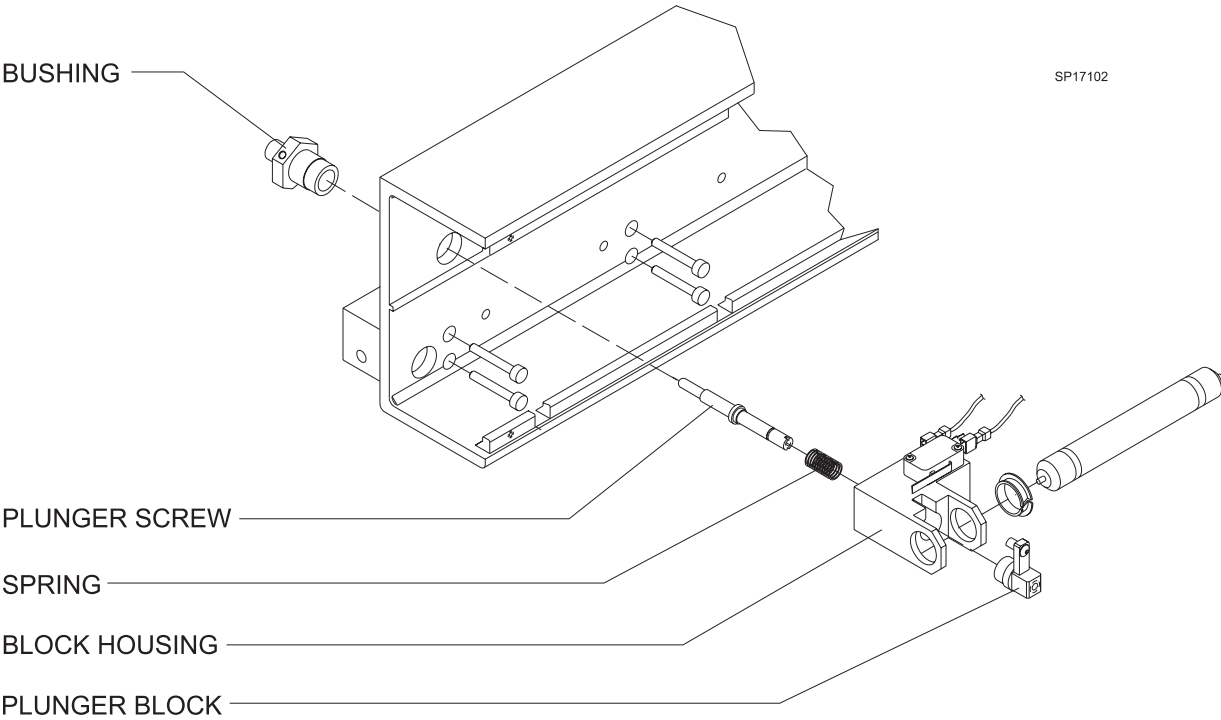

Figure 2: EXCLUSION SYSTEM ASSEMBLY
5. Using a $\frac{3}{4}$ in. wrench, remove the bushing from the right (viewed from the front of the machine) vapor mount. See Figure 2.
9. Install the supplied replacement bushing, plunger screw and spring as shown in Figure 2.